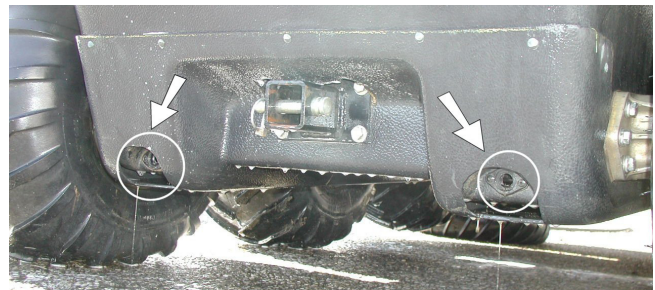
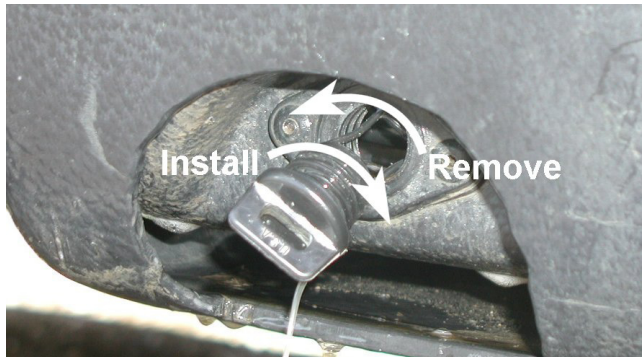

Figure 5-1. Location of rear drain plugs.
Figure 5-2. Removing and Installing the drain plug.
3. Drain Plugs are accessible from the outside of the vehicle. Make sure both drain plugs in the rear of the lower body (Figure 5-1) are in place and properly tightened. To install, locate the drain plugs at the rear of the vehicle and thread each drain plug in a clockwise direction into the plug fitting ensuring a snug fit. Check the O-ring on drain plug periodically. When removed, each drain plug remains attached to the hole opening to prevent loss or misplacement of the plug while the vehicle is draining. (Figure 5-2).